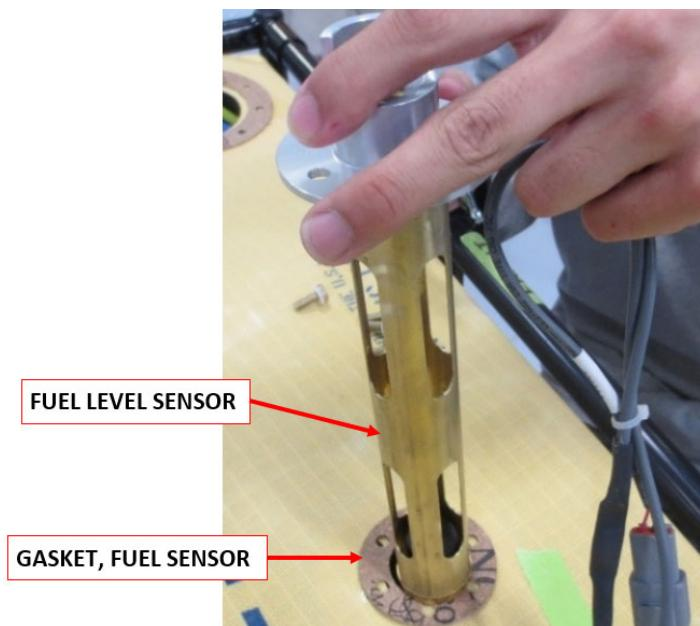

Figure 4 – Fuel level sensor being removed from bladder fuel tank.
3. Remove fuel level sensor, Figure 4:
NOTE: If when removed the brass housing on the fuel level sender has 8 x 0.25 in circular holes (16 total) rather than long slots that are shown in figure 4 contact ICON Support for further instruction.